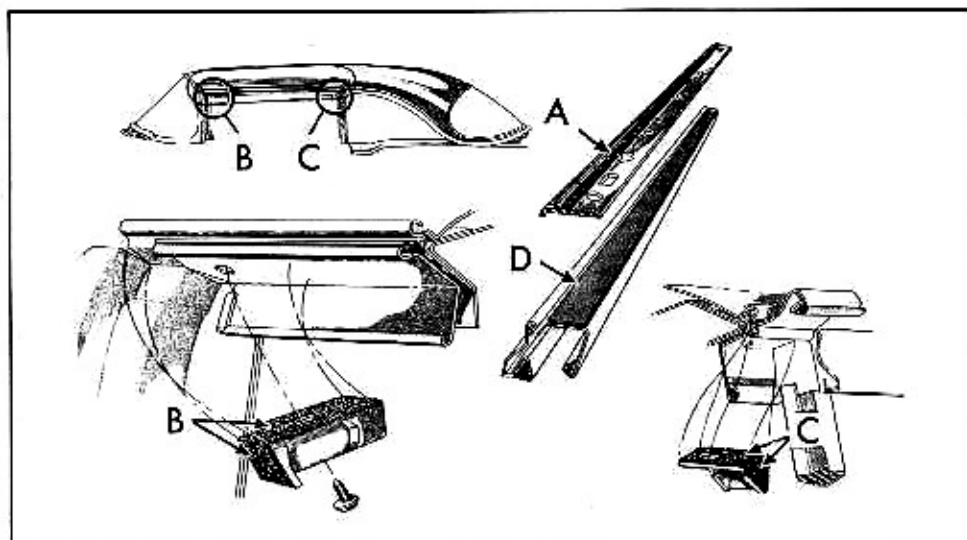

Fig. 3-50 Side Roof Rail Mechanical Sealing Strip (6237)
1. Remove the two screws, one securing the front and one securing the rear end weatherstrip, and remove the weatherstrips, Fig. 3-50. B and C.
2. Tape the outer sealing strip to the inner strip so that outer strip is in the closed position for installation of the rubber gasket "D", Fig. 3-50.
4. Apply a 1/8" diameter ribbon of caulking compound along outside edge of gasket as shown in "A" in Fig. 3-50.
and rear outer weatherstrips as indicated at "B" and "C", Fig. 3-50, and install weatherstrip.